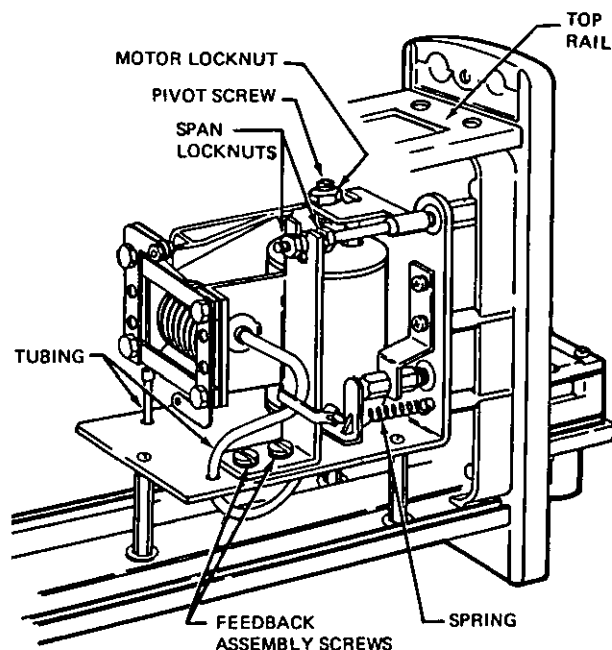

Figure 7
(For convenience, feedback assembly can be removed entirely by removing two screws and disconnecting tubing. See Figure 7. Note identification of tubing for later reconnection.)
8. Loosen motor locknut and remove motor pivot screw. See Figure 7.